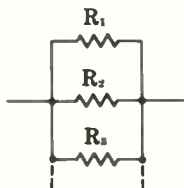

**Fig. 33.**
*Resistance, inductance, and capacitance in series (Fig. 33)*